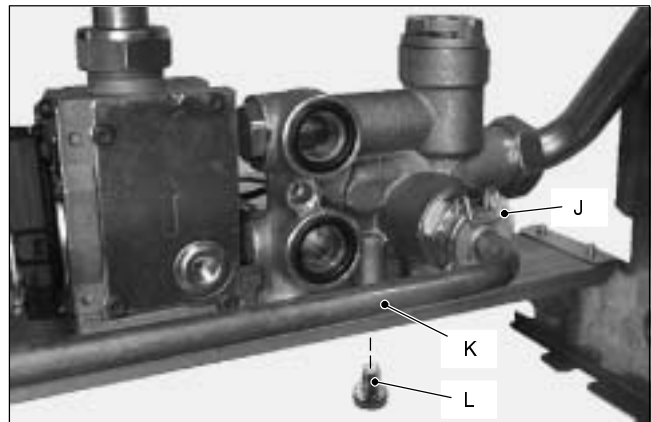

Fig. 26 Rear view of the boiler
- 8 Remove the fork *J* and move away the pipe *K* (Fig. 26).